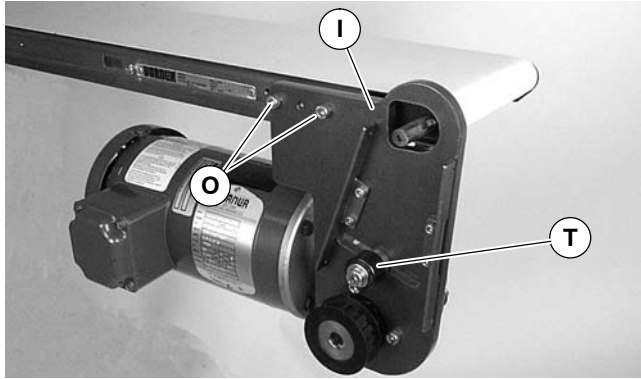
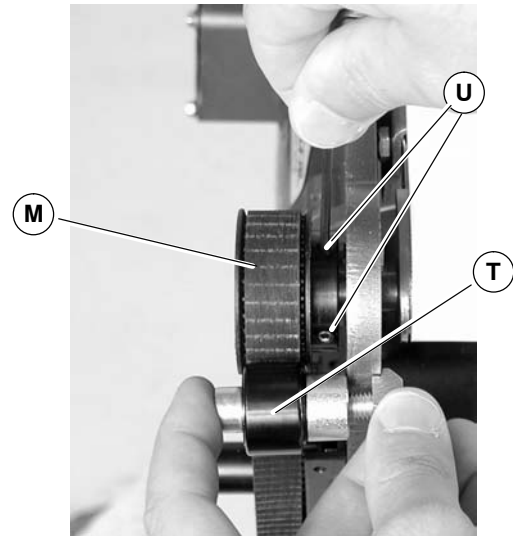

Figure 13
Figure 15
- Attach mounting assembly (I of Figure 13) with screws (O). Tighten to 80 in-lb (9 N-m).
7. Wrap timing belt (P) around driven pulley (M) and drive pulley (J). Install driven pulley (M) onto conveyor shaft.
8. Remove cam bearing and spacer (T of Figure 13). Place the cam bearing and spacer (T of Figure 15) next to the driven pulley (M). Ensure the flanges of the driven pulley are aligned with the cam bearing. Tighten driven pulley set screws (U). This will allow for proper belt alignment while conveyor is in use. Replace cam bearing and spacer (T).